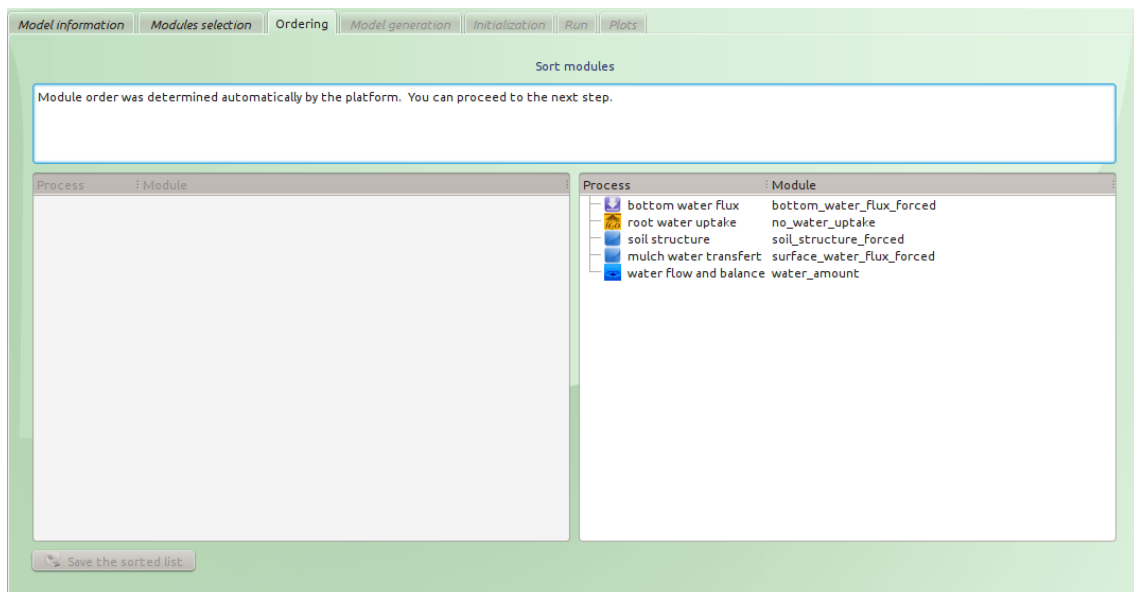

Figure 30: “Ordering” tab: case of the absence of looping between modules
**Case of non-ambiguity** In this case, the content of the “Ordering” tab is pre-filled and cannot be changed (see figure 30). You can proceed to the next step.